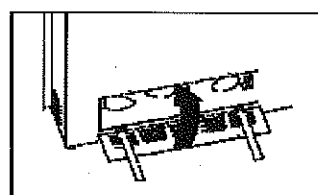

Fig.8
- Place the bulb panel to the original position and tighten the back panel by 2 screws (See Fig.8).